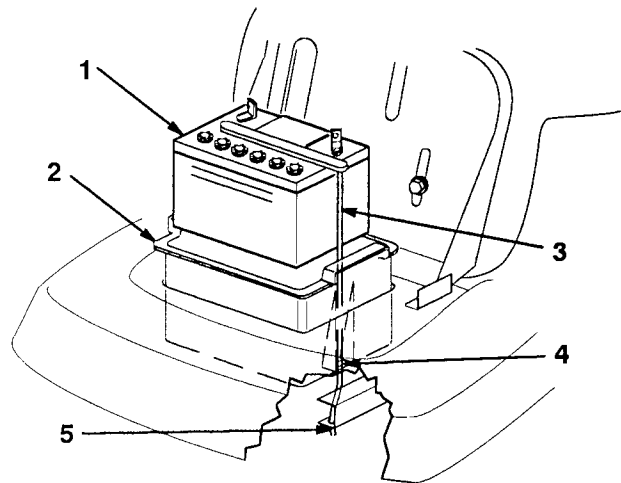

Figure 21
5. Remove the battery box, battery, and long vent tube from the chassis (Fig. 21).
1. Put the battery into the battery box and slide the vent tube into the channel and through the slot in the bottom of the box (Fig. 21).
**IMPORTANT:** Look down into the cut out area where the battery box fits into the chassis. Notice the hole at the end of the right frame member (Fig. 21). Always install the long battery vent tube through the hole to prevent battery acid from corroding the tractor and mower.
2. Install the battery box and battery into the chassis (Fig. 21). Make sure to slide the end of the vent tube through the hole in the frame (Fig. 21).